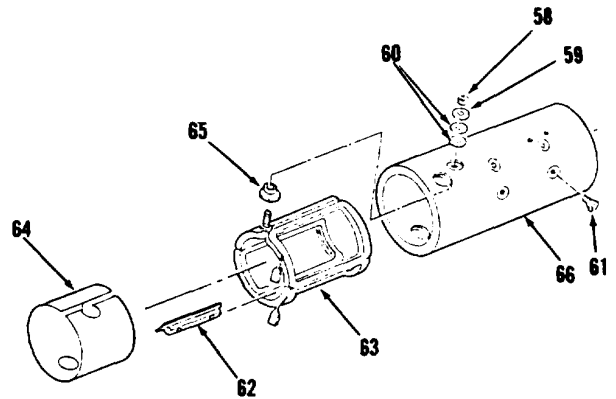

Figure 4-47.
37. Remove nut (58), washer (59) and two washers (60, Figure 4-47).